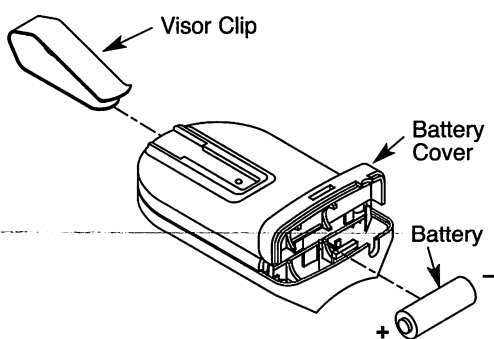

Fig. 3
Step 5-3 Attach Visor Clip to Transmitter Fig. 3.